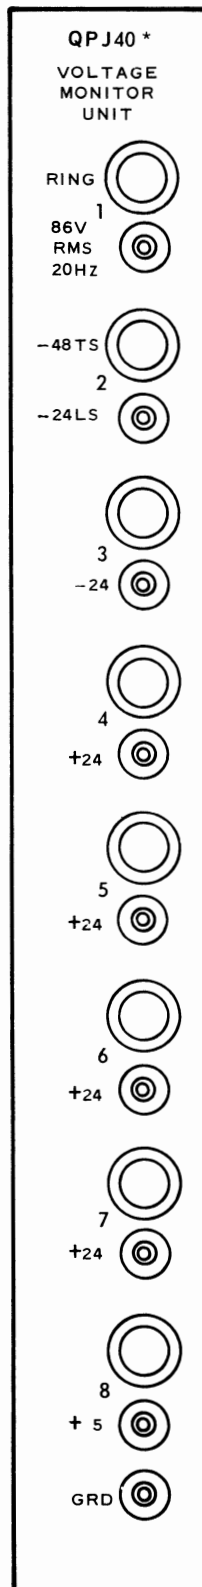

Fig. 4 – LED and Test Point Arrangement on QPJ40-Type Circuit Pack
4.21 The function of each LED and test point on the QPJ40-type (Fig. 4) circuit pack is: